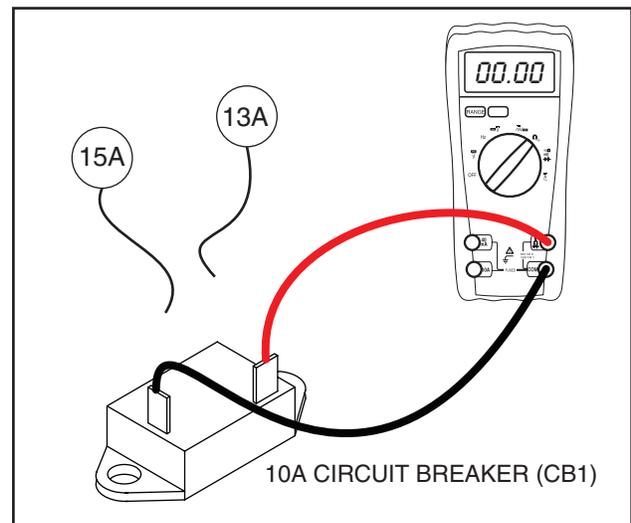

Figure 6-26. – Testing 10 Amp Breaker
- Connect one meter test lead to one terminal of the circuit breaker. Connect the other meter test lead to the remaining terminal on the circuit breaker. Continuity should be measured. See Figure 6-26.